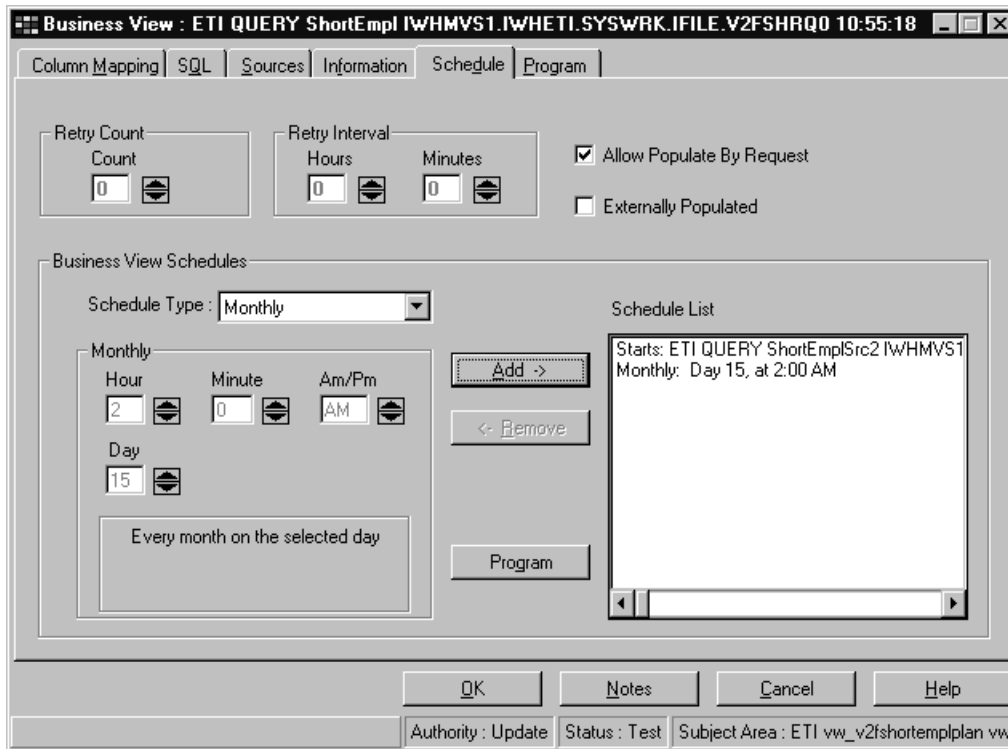

Figure 17. Adding a monthly schedule to a business view. In this example, the business view is scheduled to run on the fifteenth day of each month at 2:00 A.M.
6. Make additional selections for the particular schedule type, such as the date and time (see Figure 17 on page 35).